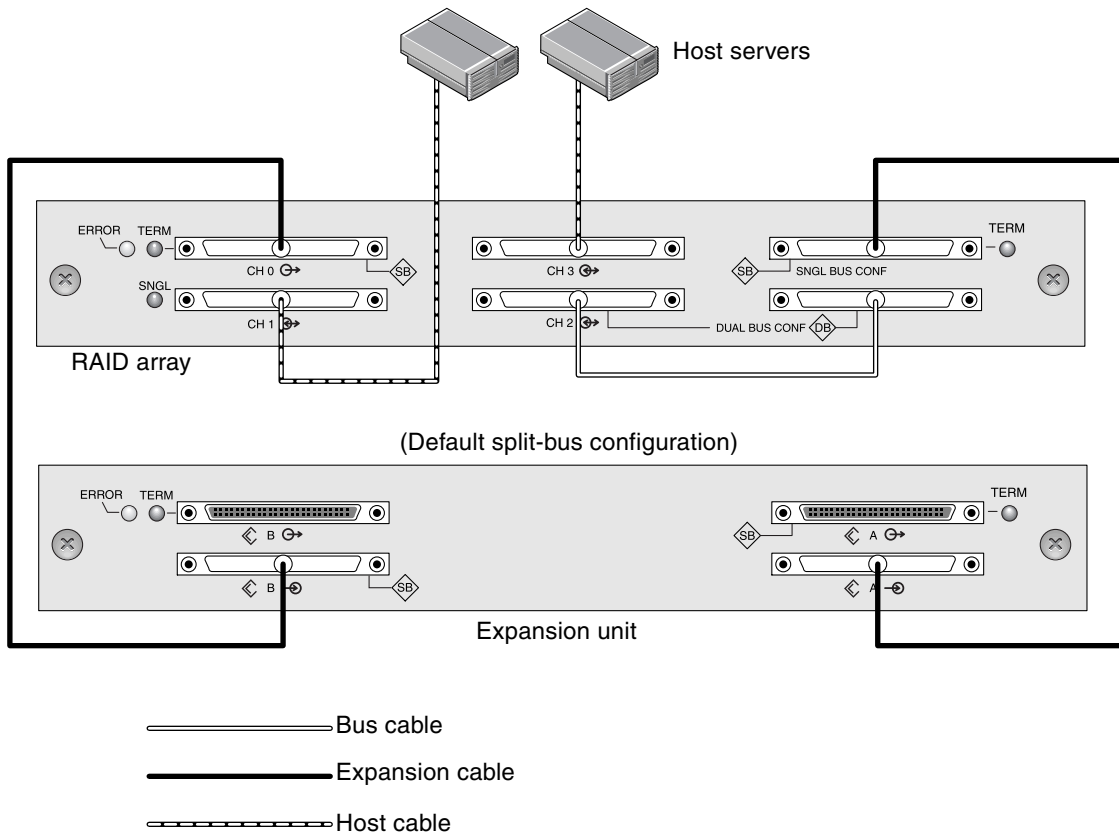

FIGURE 4-16 Split-Bus Configuration With One RAID Array and One Expansion Unit
In FIGURE 4-16, RAID channels 0 and 2 are expanded into the expansion unit, in a split-bus configuration set up on the RAID array and kept by default for the expansion unit.
3. Based on the configuration shown in FIGURE 4-16, the default drive IDs for a split-bus configuration are shown in the following figures.